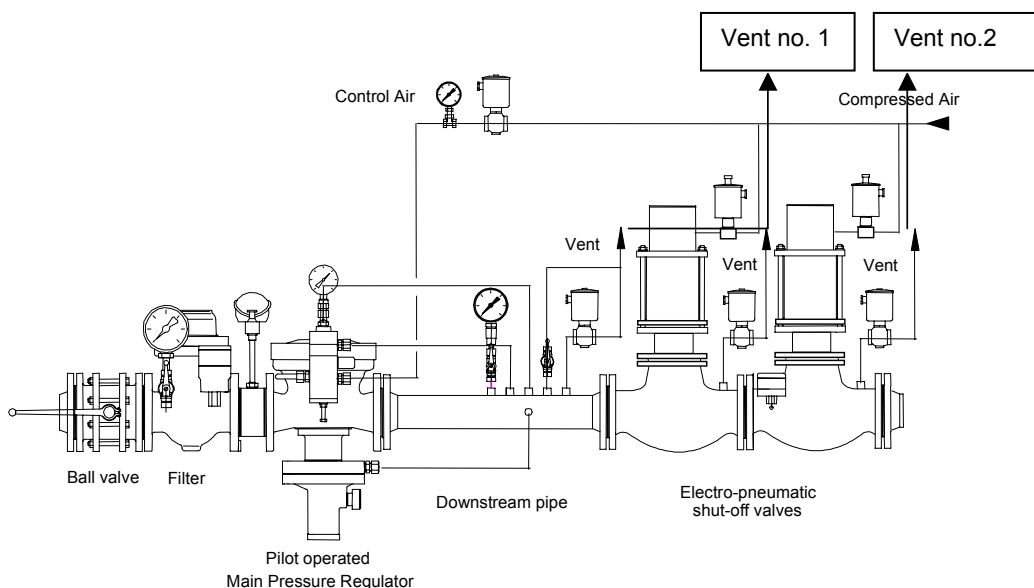

Figure 9 Fuel gas regulating unit.
During normal shutdown, perform the following checks (see Figure 9):
2. Close the main gas valve V01 (see Figure 9: ball valve).